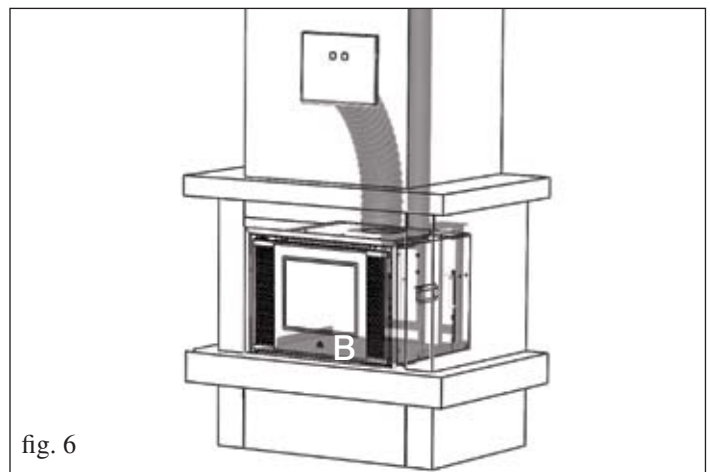

fig. 6
• Position INPELLET 49 sliding it along the plate (**B**) until it reaches end-of-travel (fig. 6).